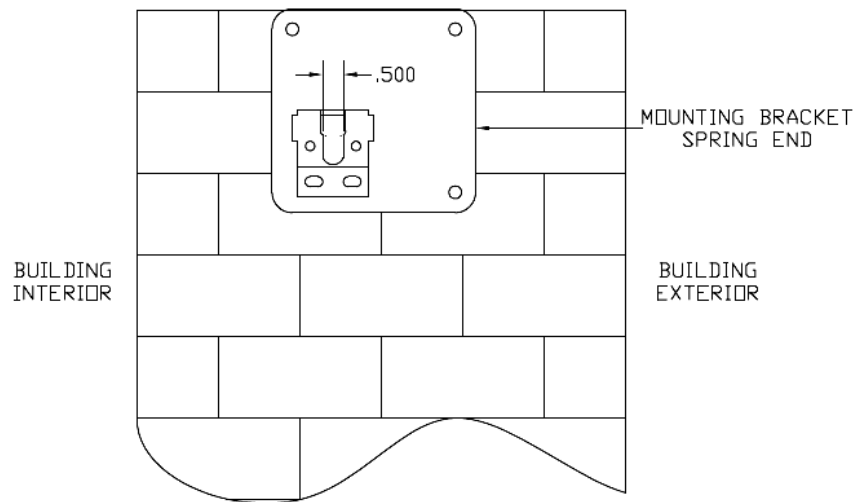

FIGURE 1
3. Mount the bracket at the top of the jamb, centered on the door jamb as shown in **Figure 1**. Self tapping #10 x $\frac{3}{4}$ " screws are provided for fastening the bracket to a steel jamb. Pre-drill all fastening points with a #22 bit. Use $\frac{5}{32}$ shim washers if needed. If fastening to a wooden jamb, round or oval head #10 x $\frac{3}{4}$ " wood screws are recommended. (Not included with this package).